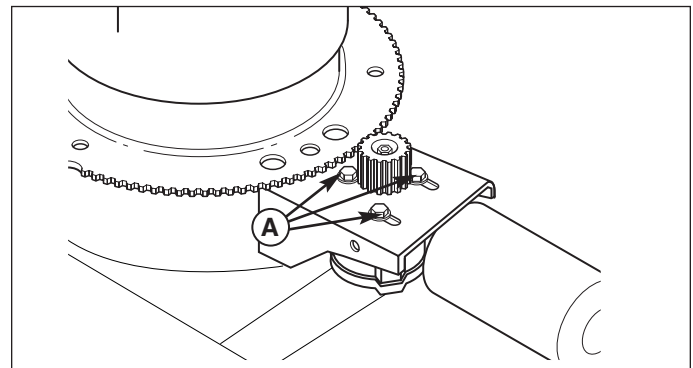

Figure 17. Discharge Chute Motor Adjustment
3. Remove the cover and loosen the screws (A, Figure 17) securing the electric spout rotator motor.
5. Adjust the motor so that it meshes with the discharge chute ring gear and tighten the adjustment screws (A, Figure 17).